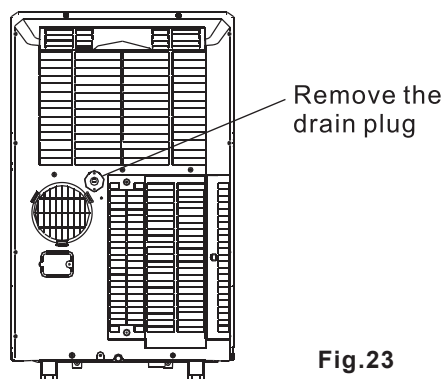

Fig.23
- During dehumidifying modes, remove the drain plug from the back of the unit and install the drain connector (5/8" universal female mender) with 3/4" hose (locally purchased). For models without drain connector, just attach the drain hose to the hole. Place the open end of the hose directly over the drain area in your basement floor. (See Fig. 23 & 24.)